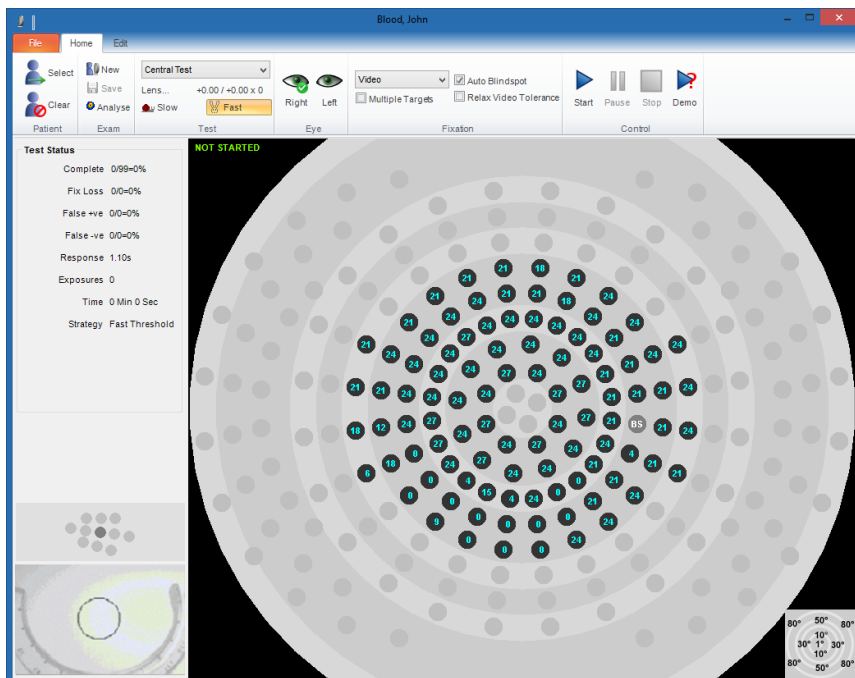

Figure 6. The Test Control screen with Eye Monitor.
With Medmont Studio running, on the **Home** tab, click **Perimetry Exam** to start the Test Control. Figure 6 shows a typical initial test control window including the video Eye Monitor.
The window shown in Figure 6 is a representation of the perimeter. It shows the set of light points that make up the test field defined in the selected Template. Each light point in the field is shown as a small black circle containing a blue number. These are the light points **included** in the field. Light points not in the test are shown as light grey. The number in each circle is the starting exposure level in decibels, and is based on either the patient's previous exam or an Age Normal Hill of Vision distribution.
1. Click on the **Perimetry Exam**  button to start the Test Control. Figure 6 shows the initial test control screen with a right eye Glaucoma test template selected.